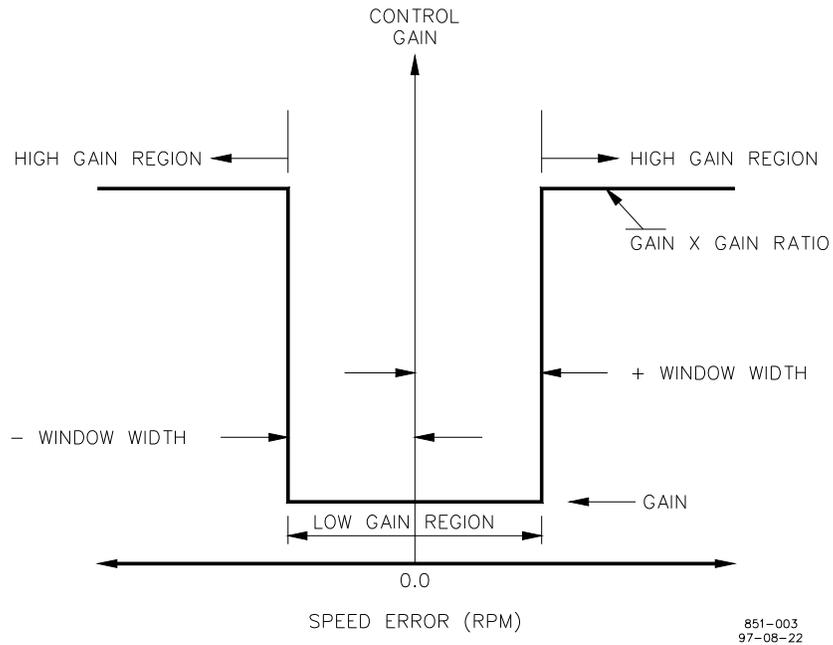

Figure 4-2. Control Gain as a Function of Speed Error
The following descriptions of each menu item apply to either set. Also see Figures 4-2, 4-3, and 4-4.
4. **GAIN RATIO** is the ratio of the Gain setting at steady state to the Gain setting during transient conditions. The Gain Ratio operates in conjunction with the Window Width and Gain adjustments by multiplying the Gain set point by the Gain Ratio when the speed error is greater than the Window Width. This makes the control dynamics fast enough to minimize engine-speed overshoot on start-up and to reduce the magnitude of speed error when loads are changing. This allows a lower gain at steady state for better stability and reduced steady-state actuator linkage movement. (See Figure 4-2.)
5. **WINDOW WIDTH** is the magnitude (in rpm) of a compensated speed error (E_c) at which the control automatically switches to fast response. The control uses the absolute value of compensated speed error (E_c) to make this switch. The absolute value is the difference between the speed reference (N_r) and the compensated speed (N_c). A Window Width too narrow will result in cycling that always factors in the Gain Ratio. (See Figure 4-2.)
13. **GAIN RATIO** is the ratio of the Gain setting at steady state to the Gain setting during transient conditions. The Gain Ratio operates in conjunction with the Window Width and Gain adjustments by multiplying the Gain set point by the Gain Ratio when the speed error is greater than the Window Width. This makes the control dynamics fast enough to minimize engine speed overshoot on start-up and to reduce the magnitude of speed errors when loads are changing. This allows a lower gain at steady state for better stability and reduced steady-state actuator linkage movement (see Figure 4-2).
14. **WINDOW WIDTH** is the magnitude (in rpm) of a compensated speed error (E_c) at which the control automatically switches to fast response. The control uses the absolute value of the compensated speed error (E_c) to make this switch. The absolute value is the difference between the speed reference (N_r) and the compensated speed (N_c). A Window Width too narrow will result in cycling that always factors in the Gain Ratio (see Figure 4-2).